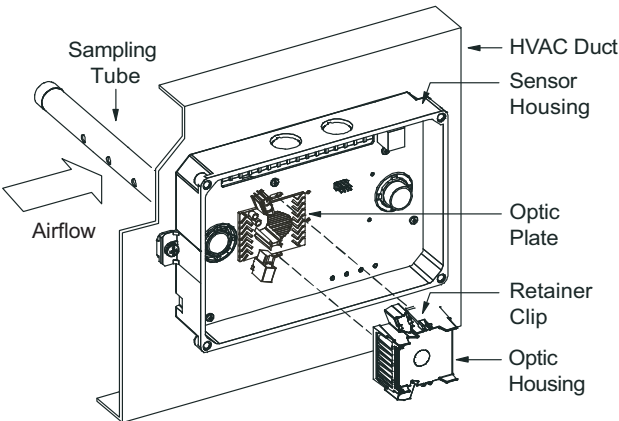

Fig. 62 — Sensor Cleaning Diagram
- 1. Disconnect power from the duct detector then remove the sensor’s cover. (See Fig. 62.)